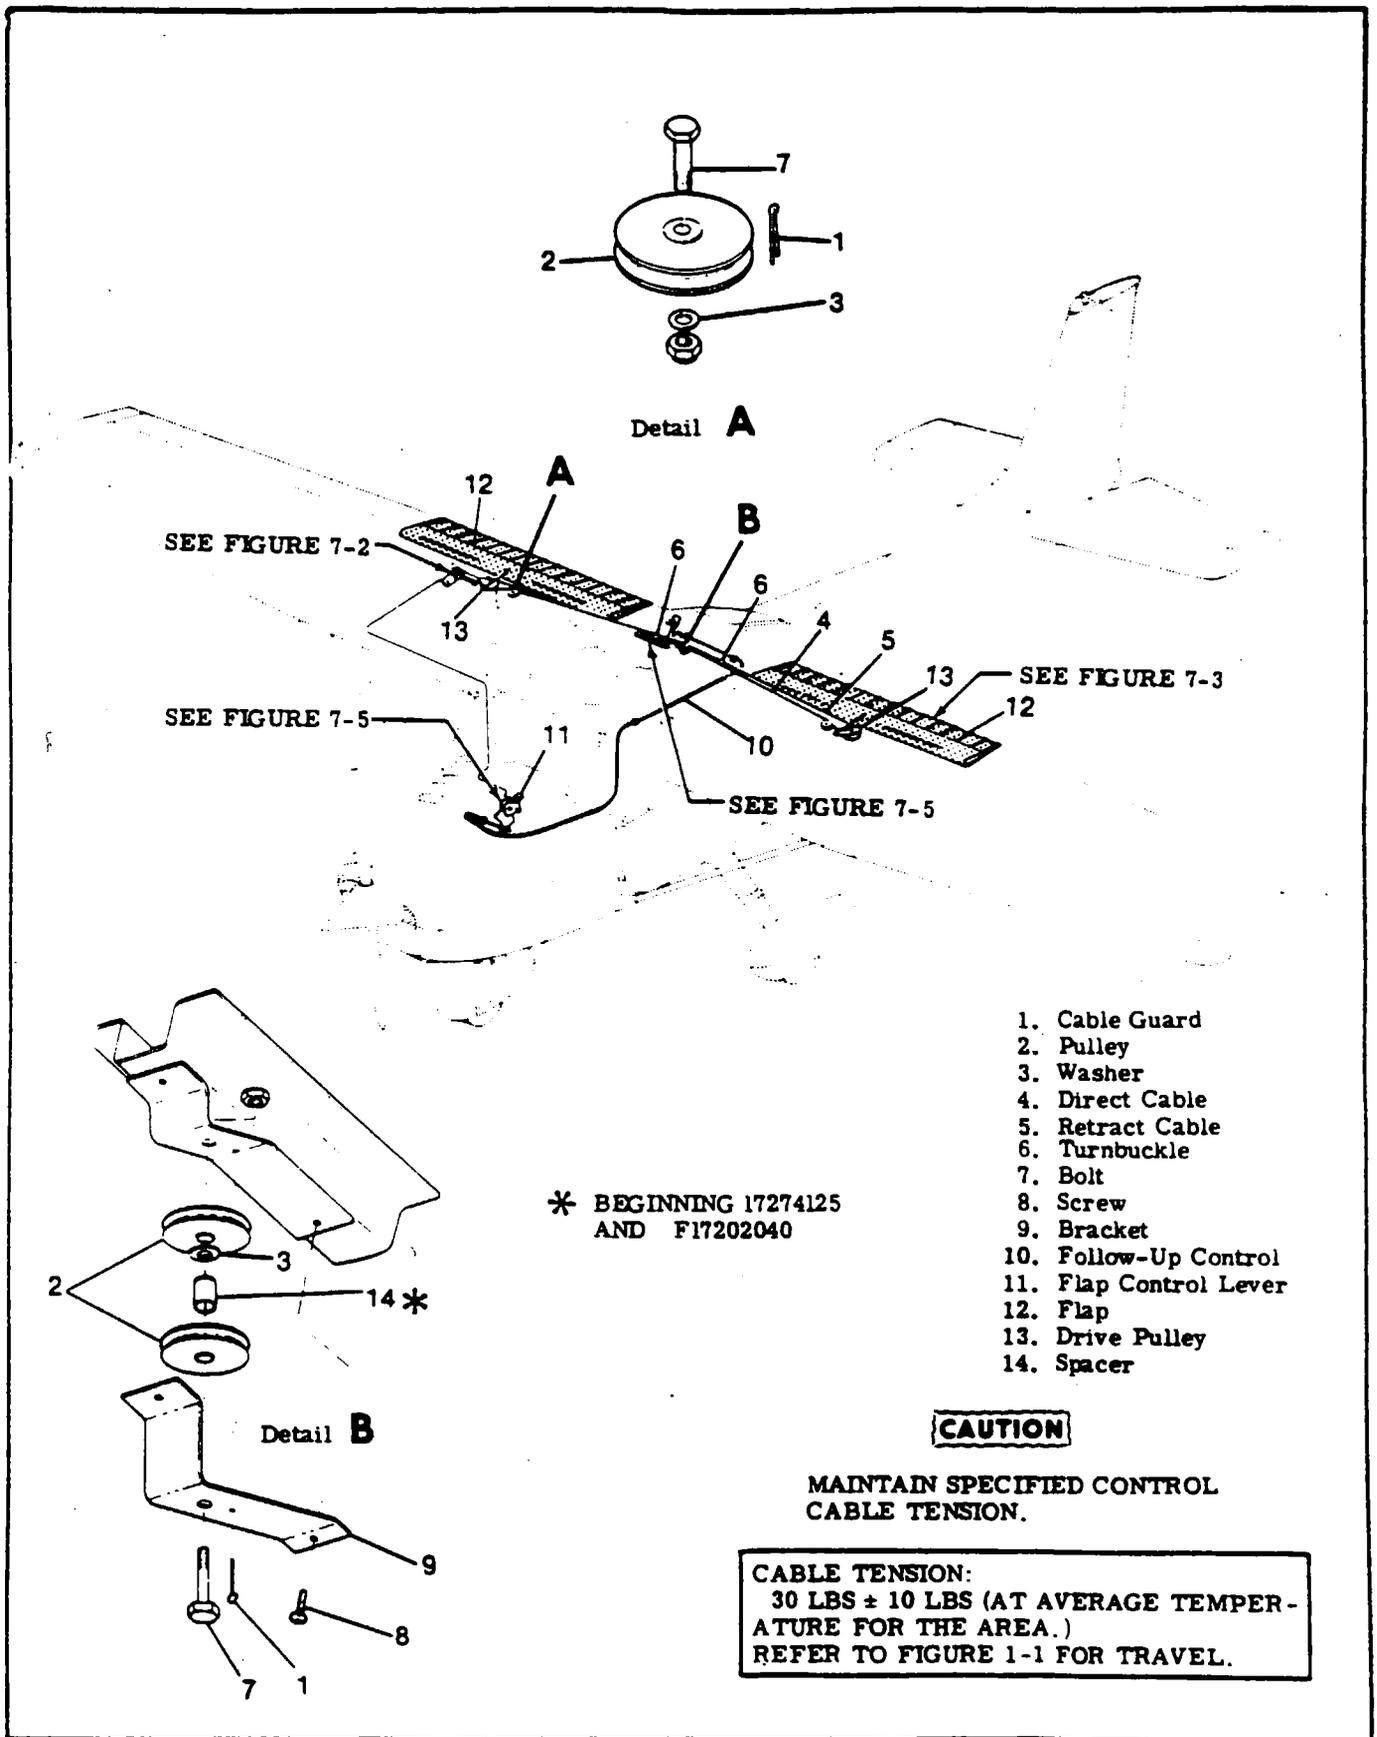

Figure 7-1. Wing Flap Control System
- 7-1. WING FLAP CONTROL SYSTEM. (See figure 7-1.)
- Remove access plate adjacent to drive pulley (13) in right wing.
- Unzip or remove headliner as necessary for access to turnbuckles (index 4, figure 7-1), remove safety wire and loosen turnbuckles.
- Remove bolt (19) securing flap push-pull rod (14) to drive pulley (13) and lower RIGHT flap gently.
- Remove bolt (20) securing actuating tube (5) to drive pulley (13) and lower LEFT flap gently. Retain bushing.
- Remove cable locks (12) securing control cables to drive pulley (13). Tag cables for reference on reinstallation.
- Remove bolt (11) attaching drive pulley (13) to wing structure.
- Remove access plates (1) from top leading edge of flap.
- Disconnect push-pull rod (6) at flap bracket (7).
- Remove bolts (5) at each flap track. As flap is removed from wing, all washers, rollers and bushings will fall free. Retain these for reinstallation.
- Reverse the preceding steps for reinstallation. If push-pull rod (6) adjustment is not disturbed, rerigging of system should not be necessary. Check flap travel and rig in accordance with paragraph 7-16, if necessary.
- 7-14. **CABLES AND PULLEYS.** (See figure 7-1.)
- a. (See figure 7-1.) Unzip or remove headliner as necessary for access to turnbuckles (6).
- c. (See figure 7-1.) Remove safety wire, relieve cable tension, disconnect turnbuckles (6) and carefully lower left flap.
Temporarily connect cables at turnbuckles (index 6, figure 7-1) and test flaps by hand to ensure both flaps extend and retract together. If they will not, the cables are incorrectly attached to the drive pulleys. Ensure that the right drive pulley rotates clockwise when viewed from below, as the flaps are extended. Tag cables for reference and disconnect turnbuckles again.